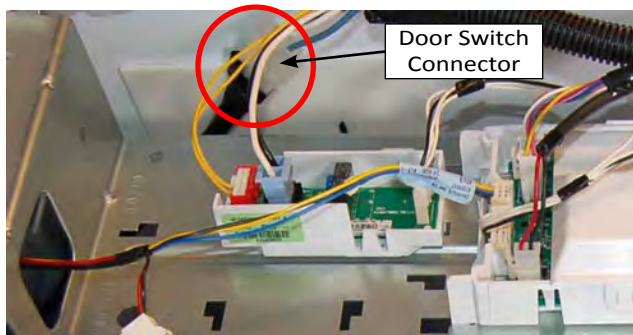

Figure 1
3. Disconnect Door Switch connector (see Figure 1).